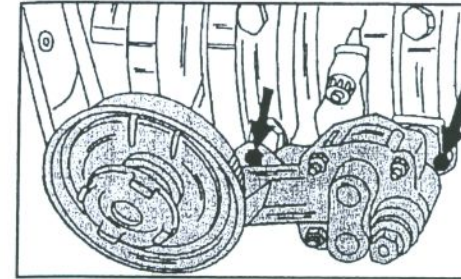

Fig. 9.28 – The oil pump at the bottom of the crankcase. The arrows show two of the bolts.
The lubrication system is a pressure-feed system. A gear-type oil pump, consisting of an internal and an external gearwheel, is driven via the crankshaft. Fig. 9.28 shows where the pump is located at the bottom of the crankcase. The oil pump cannot be overhauled and must be replaced in case of damage.
- The oil pump is now visible as shown in Fig. 9.28. Remove the two pump bolts from the bottom of the crankcase and withdraw the pump.